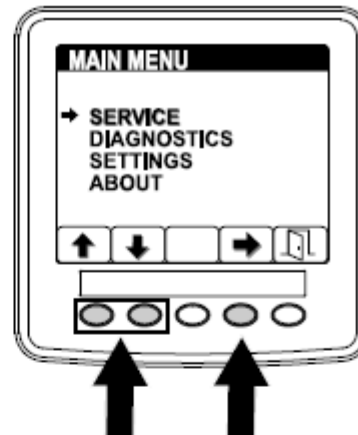

Figure 5
1. On the MAIN MENU, press button 1 or button 2 to navigate to the SERVICE option, and press button 4 to select the SERVICE entry (Figure 5).